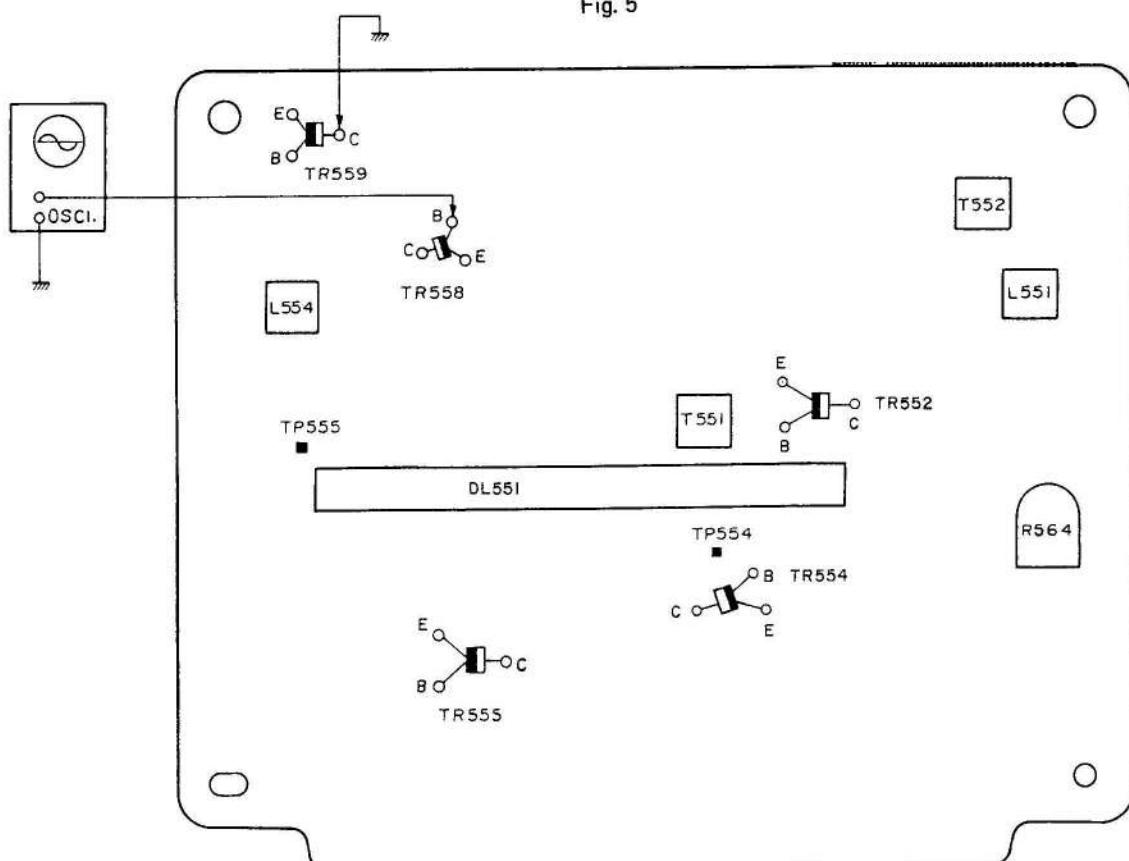

Fig. 6
3. Colour alignment ..... Fig. 6.